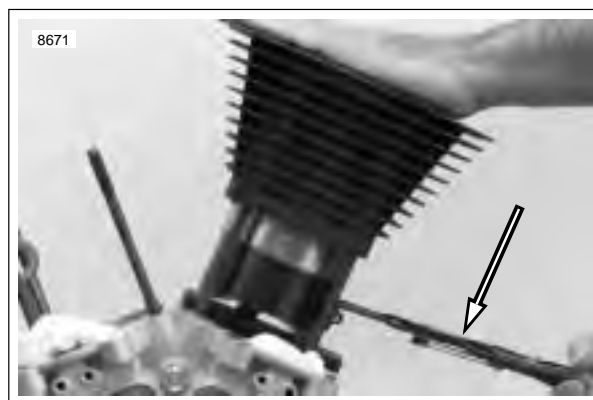

Figure 3-105. Compressing Piston Rings Using Piston Ring Compressor (Part No. HD-96333-51C)
9. See Figure 3-105. Compress the piston rings using PISTON RING COMPRESSOR (Part No. HD-96333-51C).